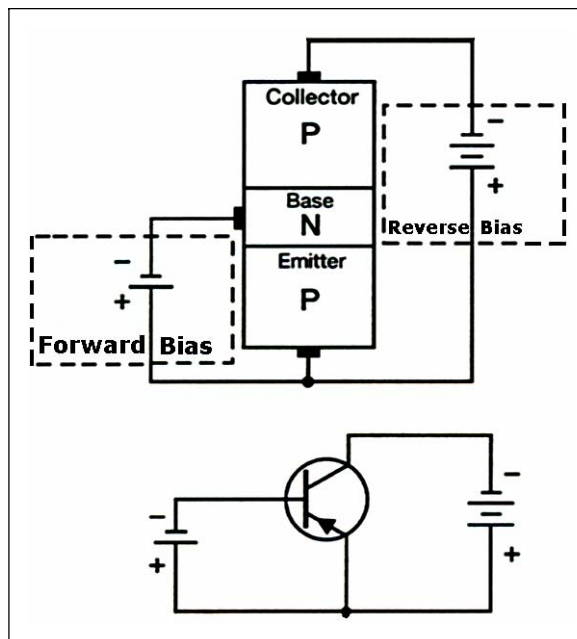

Figure 2-10. Properly Biased PNP Transistor
2-27. The PNP transistor works essentially the same as the NPN transistor. However, since the emitter, base, and collector in the PNP transistor are made of materials that are different from those used in the NPN transistor, different current carriers flow in the PNP unit. The majority current carriers in the PNP transistor are holes. This is in contrast to the NPN transistor where the majority current carriers are electrons. In order to support this different type of current (hole flow), the bias batteries are reversed for the PNP transistor. Figure 2-10 shows a typical bias setup for the PNP transistor. Notice that the procedure used earlier to properly bias the NPN transistor also applies here to the PNP transistor. The first letter (P) in the PNP sequence indicates the polarity of the voltage required for the emitter (positive) and the second letter (N) indicates the polarity of the base voltage (negative). Since the base-collector junction is always reverse biased, then the opposite polarity voltage (negative) must be used for the collector. Therefore, the base of the PNP transistor must be negative with respect to the emitter and the collector must be more negative than the base. Just as in the case of the NPN transistor, this difference in supply voltage is necessary in order to have current flow (hole flow in the case of the PNP transistor) from the emitter to the collector. Although hole flow is the predominant type of current flow in the PNP transistor, hole flow only takes place within the transistor itself, while electrons flow in the external circuit. However, it is the internal hole flow that leads to electron flow in the external wires connected to the transistor.